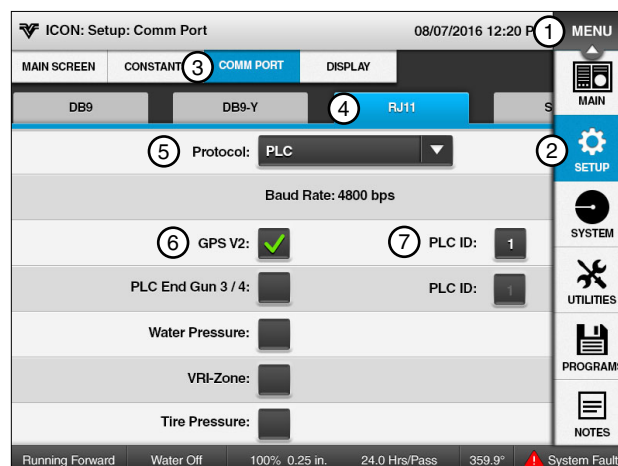

Figure 41-1 1. Menu 5. RJ11 Protocol (PLC)
(b) Select the **RJ11 Protocol** field and depending on which GPS position option is installed on the machine, choose either **PLC** (GPS Position Tower Box) or **Valley GPS** (Valley GPS Antenna) from the list. See Figures 41-1 and 41-2.
- Check the **GPS V2** checkbox to enable GPS position. See Figure 41-1.